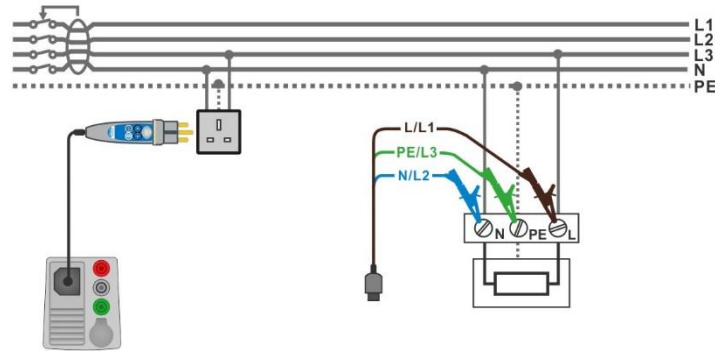

Figure 7.82: Z auto measurement
- › Connect 3-wire test lead or Plug commander to the object under test, see **Figure 7.82**.